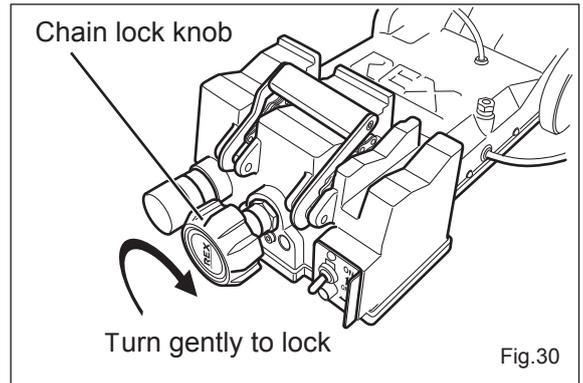

Fig.30
5. Finishing the Cutting Process (Figs.30 & 31)
XB125 Chain Vice (Fig.30)